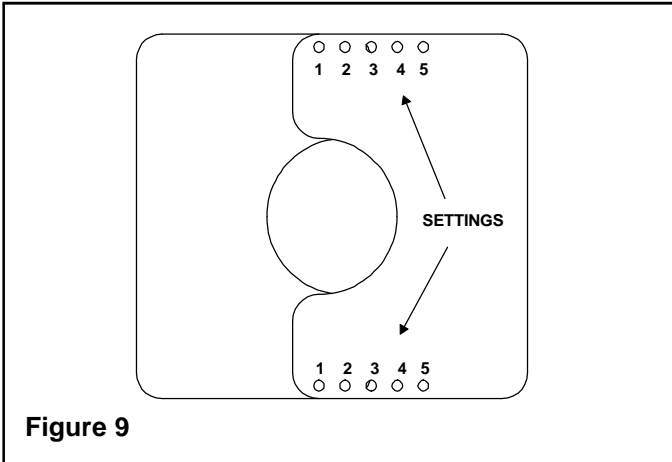

Figure 9
4. Center the Flue Restrictor on vent and secure in place by using two self-tapping screws (see Figure 9).